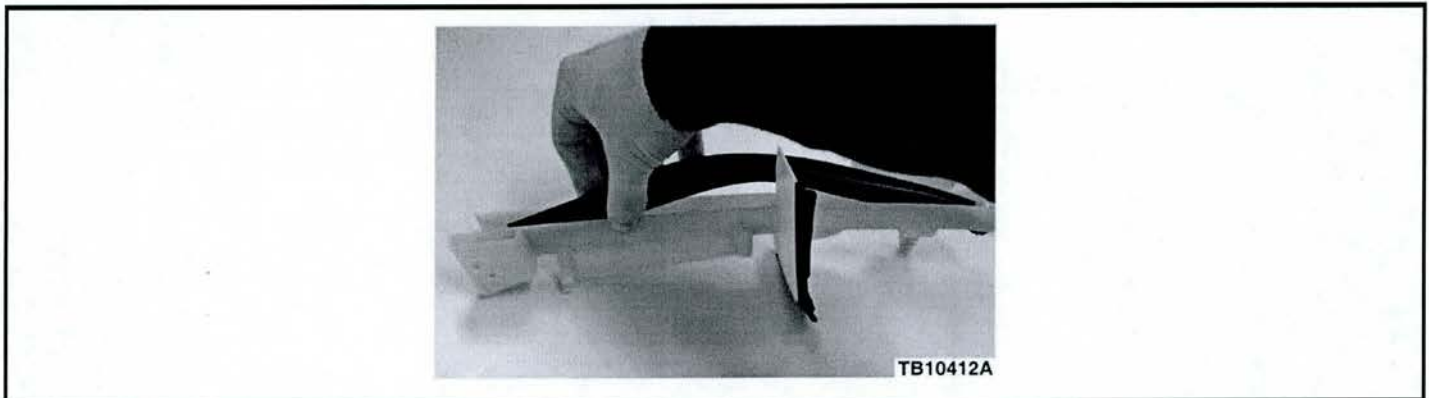

Figure 2 - Article 14-0111
6. Replace the door glass run seal. (Figure 2)